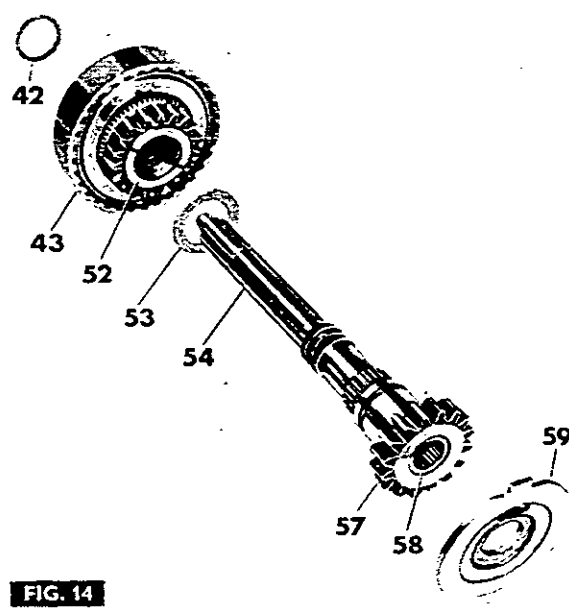

FIG. 14
2. Fig 14. Remove the tab located spacer (59), from the rear of the main input shaft.
3. Drive the main input shaft (54) rearwards out of the gearbox, removing the thrust washer (42) Multi-Power clutch (43) centre thrust washer (53) and the main drive pinion (57) as the shaft is withdrawn through them.
4. Remove the input overdrive pinion (52) from the Multi-Power clutch.
6. If necessary, remove the needle roller bearing (58) from the rear end of the main input shaft.
1. Fig 14. If necessary, fit a new needle roller bearing (58) to the rear of the main input shaft.
3. Refit the input overdrive gear (52) to the Multi-Power clutch.
4. Fit the main input shaft (54) into the gearbox from the rear, locating the main input gear (57) and thrust washer (53), then the clutch and overdrive assembly, locating the main input gear and the clutch on their relevant splines.
5. Refit the front thrust washer (42) on the splines, with the steel face towards the clutch.
6. Refit the tab located spacer (59) with its convex face towards the main input shaft and locating the tab in the centre web of the gear box.